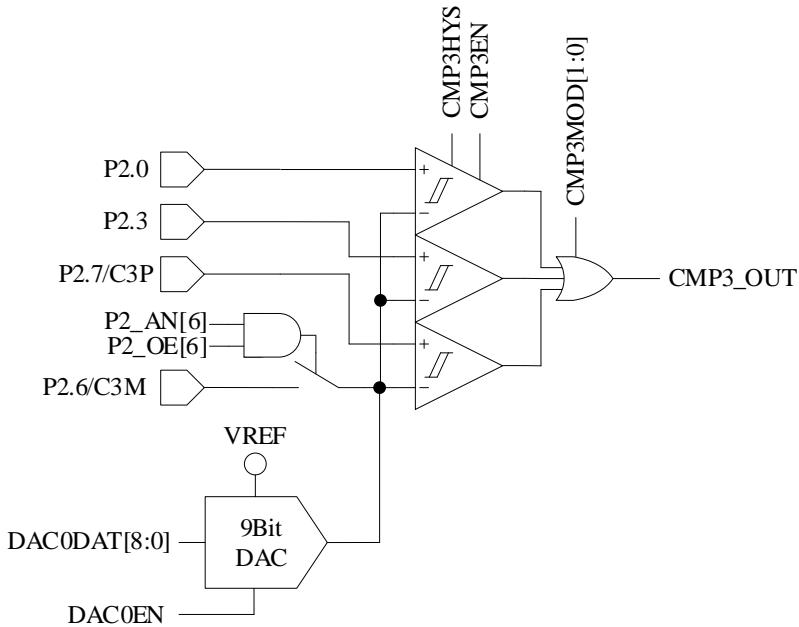

Figure 31-4 Triple-comparator Input Mode
- When CMP_CR1[CMP3MOD] = 1X, CMP3 works in Three-comparator Input Mode. The connection of input and output pins are as shown in Figure 31-4.